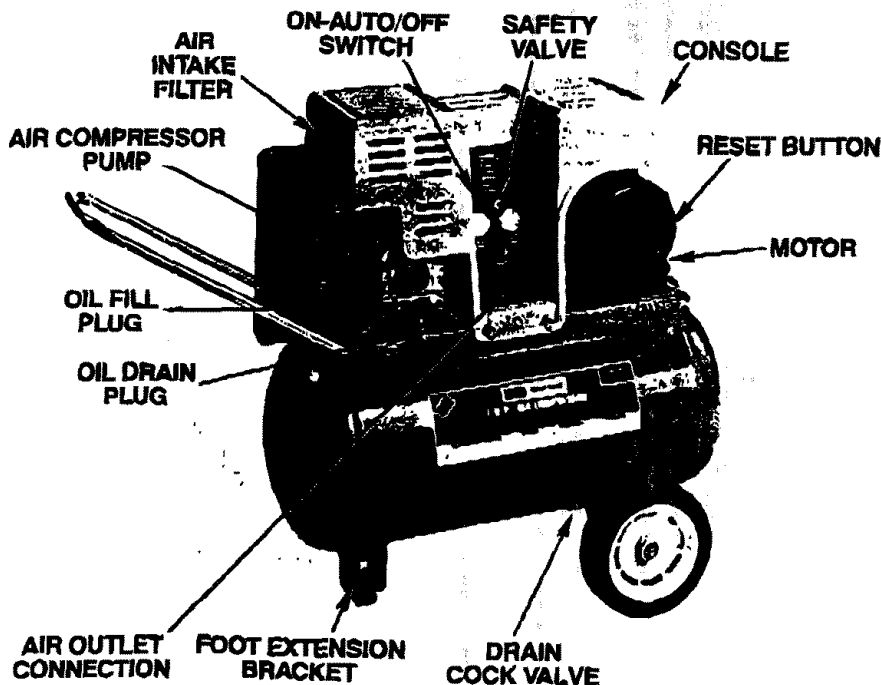

Figure 1
Place unit on a level surface. Remove oil fill plug (51) and slowly add a special compressor oil such as Sears 9-16426 or SAE 20-20W SF motor oil until it is even with the top of the oil fill hole. When filling the crankcase, the oil flows into it very slowly. If the oil is added too quickly, it will overflow and appear to be full. (It takes 16 fluid ounces of oil to fill the crankcase.) Under winter-type conditions use SAE 10W oil. Multi-viscosity oil (10W30) may be used but will result in carbon deposits on critical components and reduce performance and compressor life. Replace oil fill plug (51). Plug the compressor into the correct power source. Start the compressor by switching the ON-AUTO/OFF switch (19) to the ON-AUTO position. Turn the regulator knob (23) clockwise fully to permit air to escape and prevent air pressure buildup in the air tank. RUN THE COMPRESSOR 30 MINUTES IN THIS MANNER TO LUBRICATE PISTONS AND BEARINGS. Shut off air with regulator knob (turn counterclockwise) and let the unit pump up to cut off pressure. Turn the switch to "OFF" and check the oil level; add oil if necessary. Turn switch to "ON" and the unit is ready for use. Connect the air hose to the air outlet connection (27) located on the front of the console. Refer to Figure 1.
The motor has a thermal overload protector. If the motor overheats for any reason, the overload protector will shut off the motor. The motor must be allowed to cool before restarting. Turn the ON-AUTO/OFF switch to the OFF position. Depress the reset button located on the end of the motor. To restart, turn the ON-AUTO/OFF switch to the ON position. Refer to Figure 1.
A dirty air intake filter will not allow the compressor to operate at full capacity. When the intake filter becomes dirty, oily, or covered with paint overspray, replace it. Do not operate the compressor with the air intake filter removed. To replace the filter, use needle nosed pliers and pull or pry the old filter out. Replace with new. Refer to Figure 1.